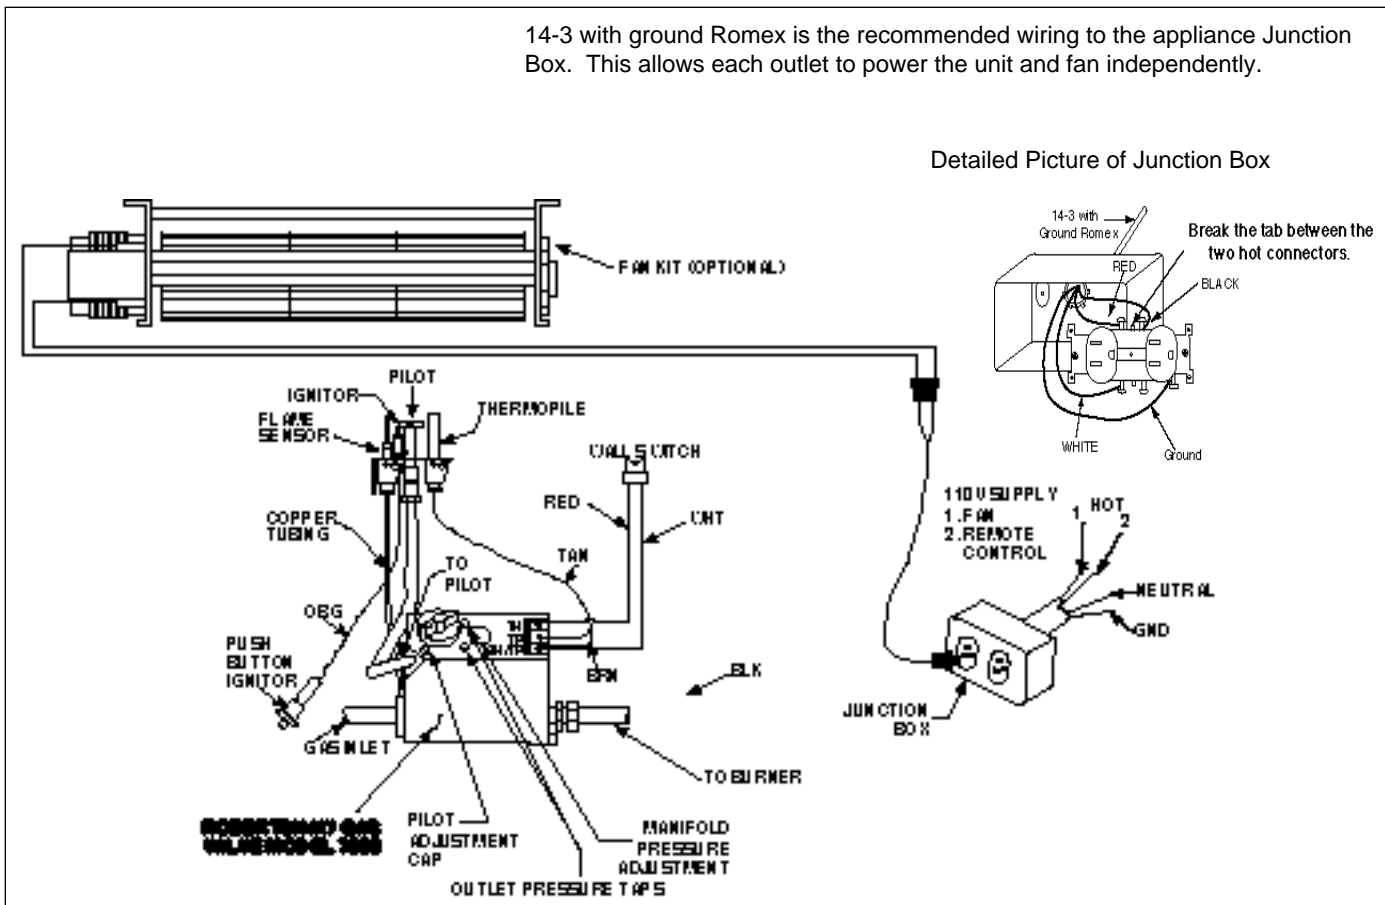

Figure 20
1. Appliance requirements. A wiring diagram is shown in Figure 20.